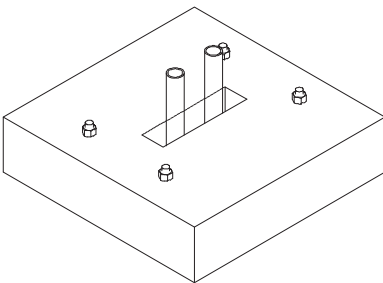
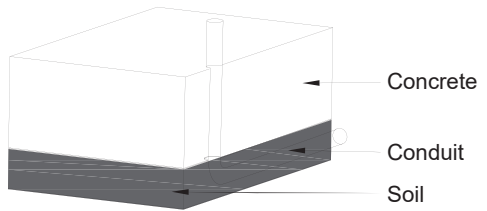

Fig.1
Fig.2
- First, need build the concrete pad for pedestal, the compressive strength must be over 3000psi, reference picture is shown as Fig.1 & Fig.2,.